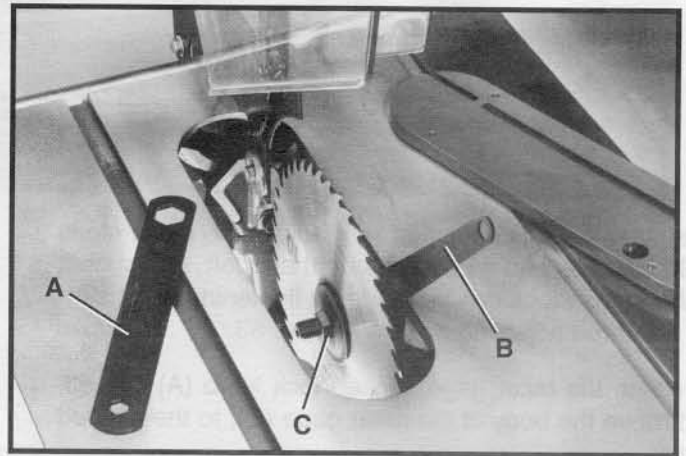

Fig. 55
4. Place the open end wrench (B) Fig. 55, on the flats of the saw arbor to keep the arbor from turning, and using wrench (A), turn the arbor nut (C) toward the front of the saw. Remove arbor nut, blade flange and saw blade.
5. Assemble the new blade, making certain the teeth are pointing down at the front of the saw table and assemble outside blade flange and arbor nut. With wrench (B) Fig. 55, on the flats of the arbor to keep it from turning, tighten arbor nut by turning wrench (A) clockwise.